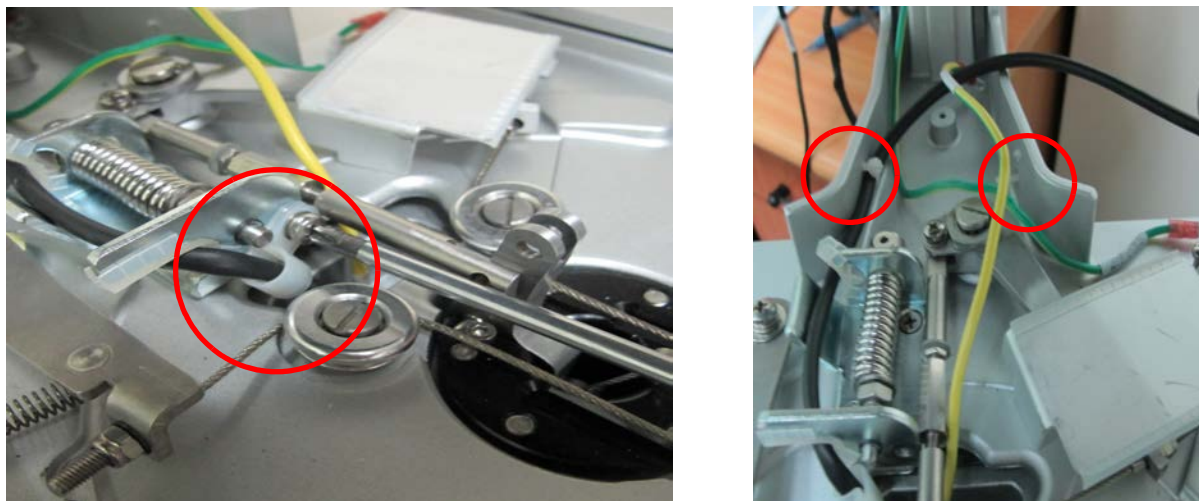

Figure 8-88 Remove Securing Clip and Tie-Wraps on OPIO Platform
11.) Remove the cable securing clip and cut the tie-wraps - see Figure 8-88 below.
- 1.) Return the cable tie-wrap to the upper section of the lower arm - see Figure 8-88 on page 8-70.